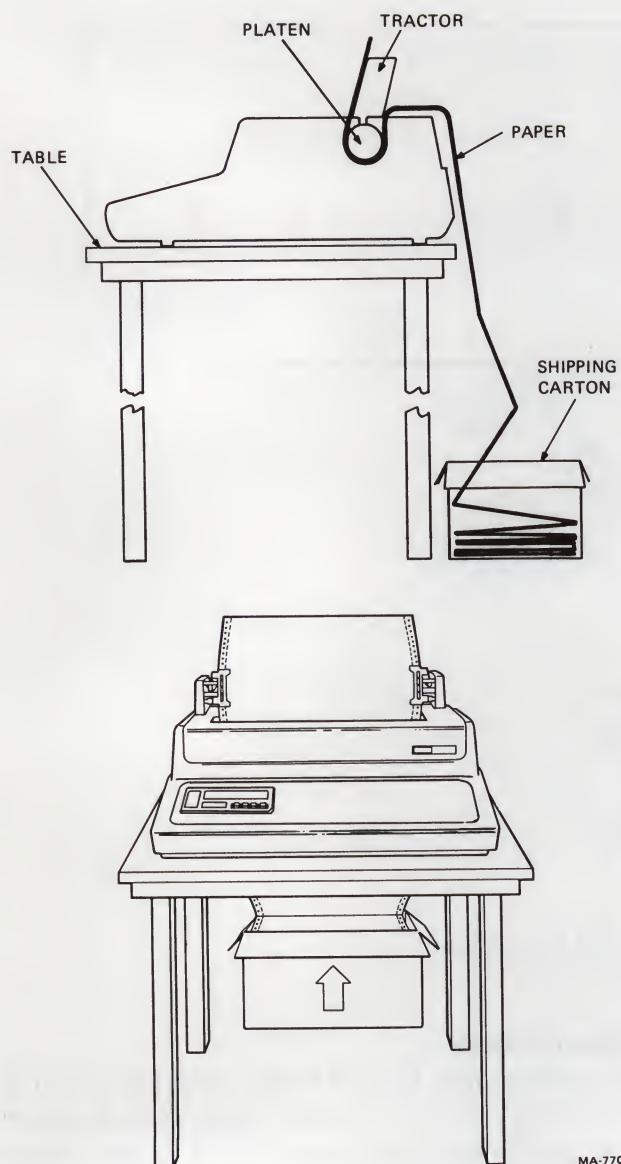

Figure 2-8 Tractor Feed Paper Path (Without Printer Stand)
6. If you are not using the printer stand option position the printer as shown in Figure 2-8. Place the back edge of the printer parallel to, and slightly over, the edge of the table.
- b. If you are not using the printer stand, place the paper/forms on the floor behind the table as shown in Figure 2-8. The paper can be left in the shipping container if the container top is removed.
- b. If you are not using the printer stand, feed the paper through the paper slot behind the platen. Using the paper advance knob, advance the paper until the top edge extends above the tractors (Figure 2-8).